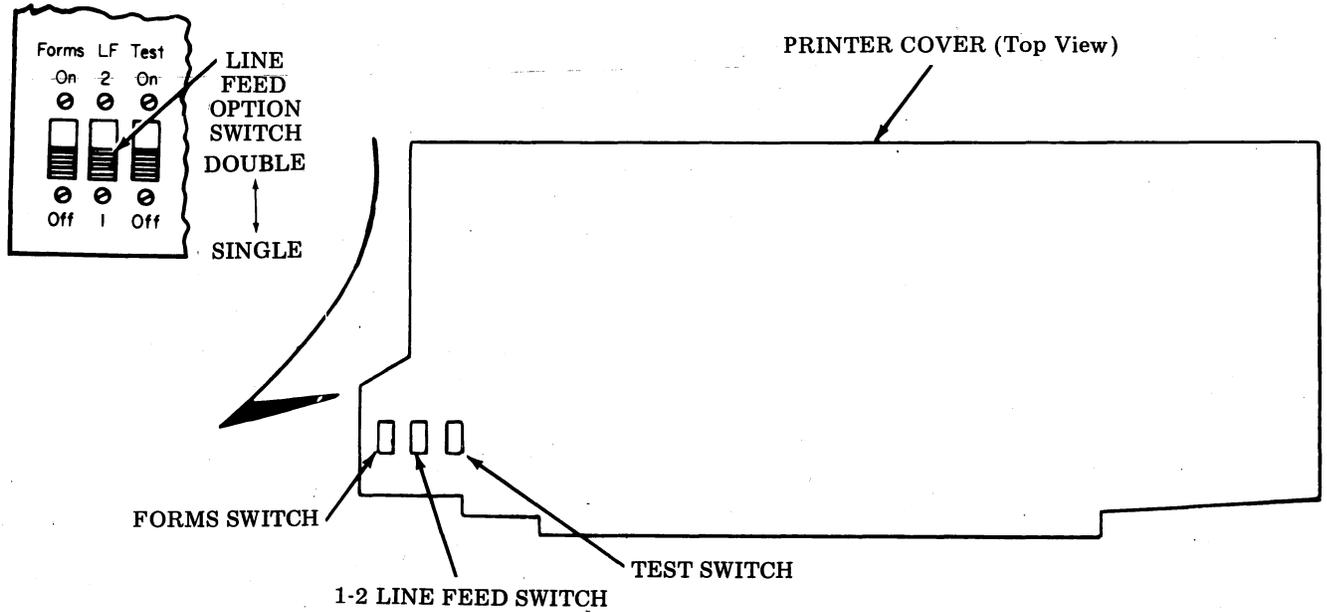

Fig. 103
4.28 For location of "Forms" and "LF" switches on all 132-column printers, see Fig. 103.